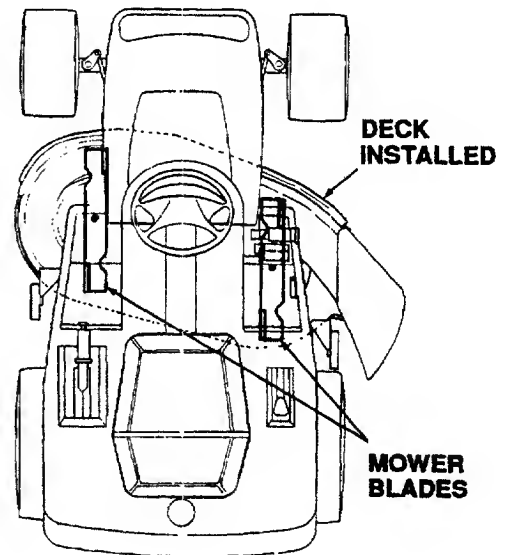

Figure 31
2. Position the mower blades so the ends of each blade point to the front and to the rear of the tractor. (Refer to Figure 31).